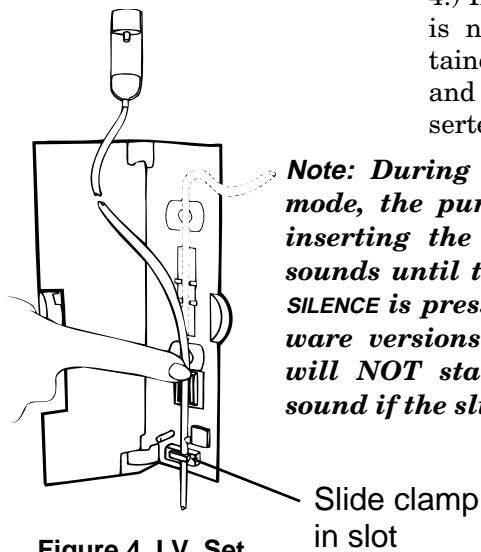

Figure 4. I.V. Set Loading Diagram
- b. **If your hospital has enabled the slide clamp loading feature**, insert the slide clamp on the I.V. set fully into the slot, so that it is flush with the pump housing. (See Figure 4.) If the slide clamp loading feature is not enabled, a black spring retainer occupies the slide clamp slot and the slide clamp cannot be inserted. Proceed to step c.
- c. Load the tubing through the guide channel from bottom to top as shown in Figure 4.